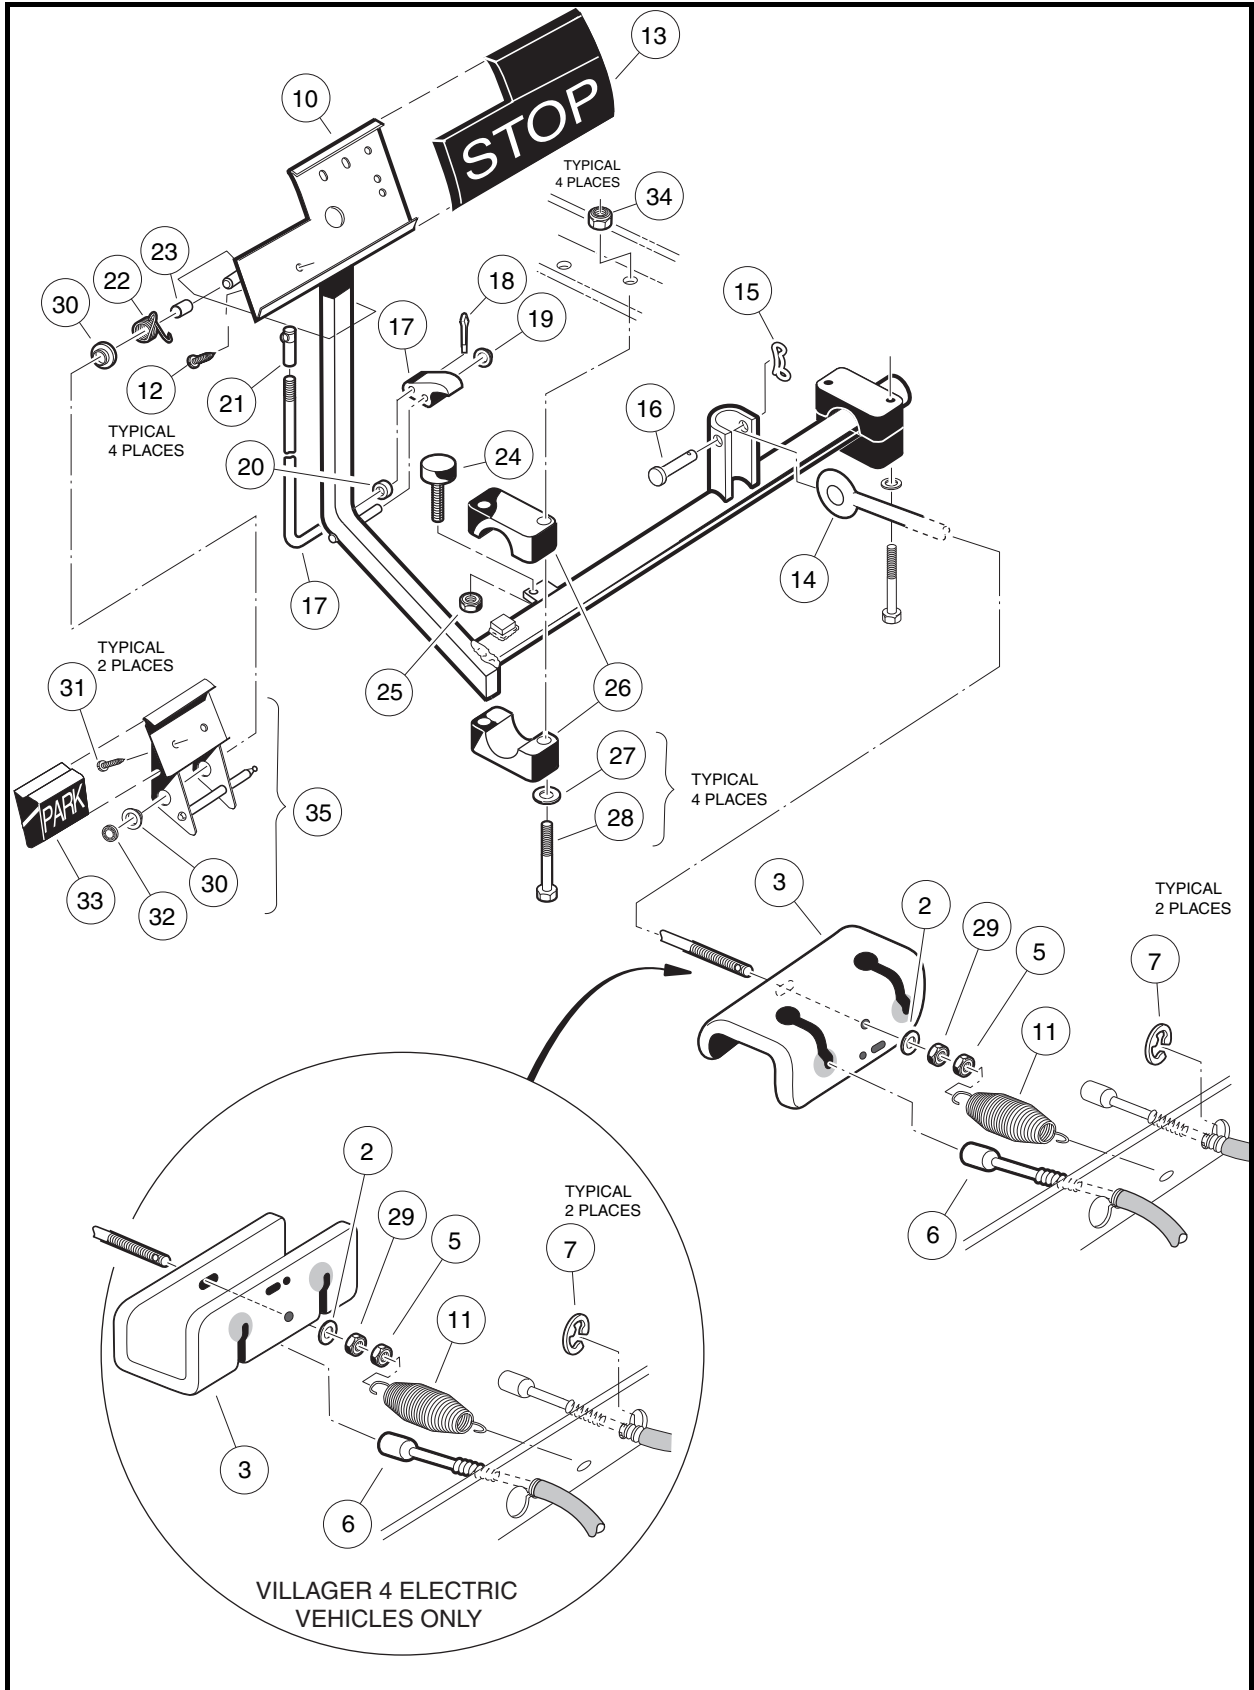
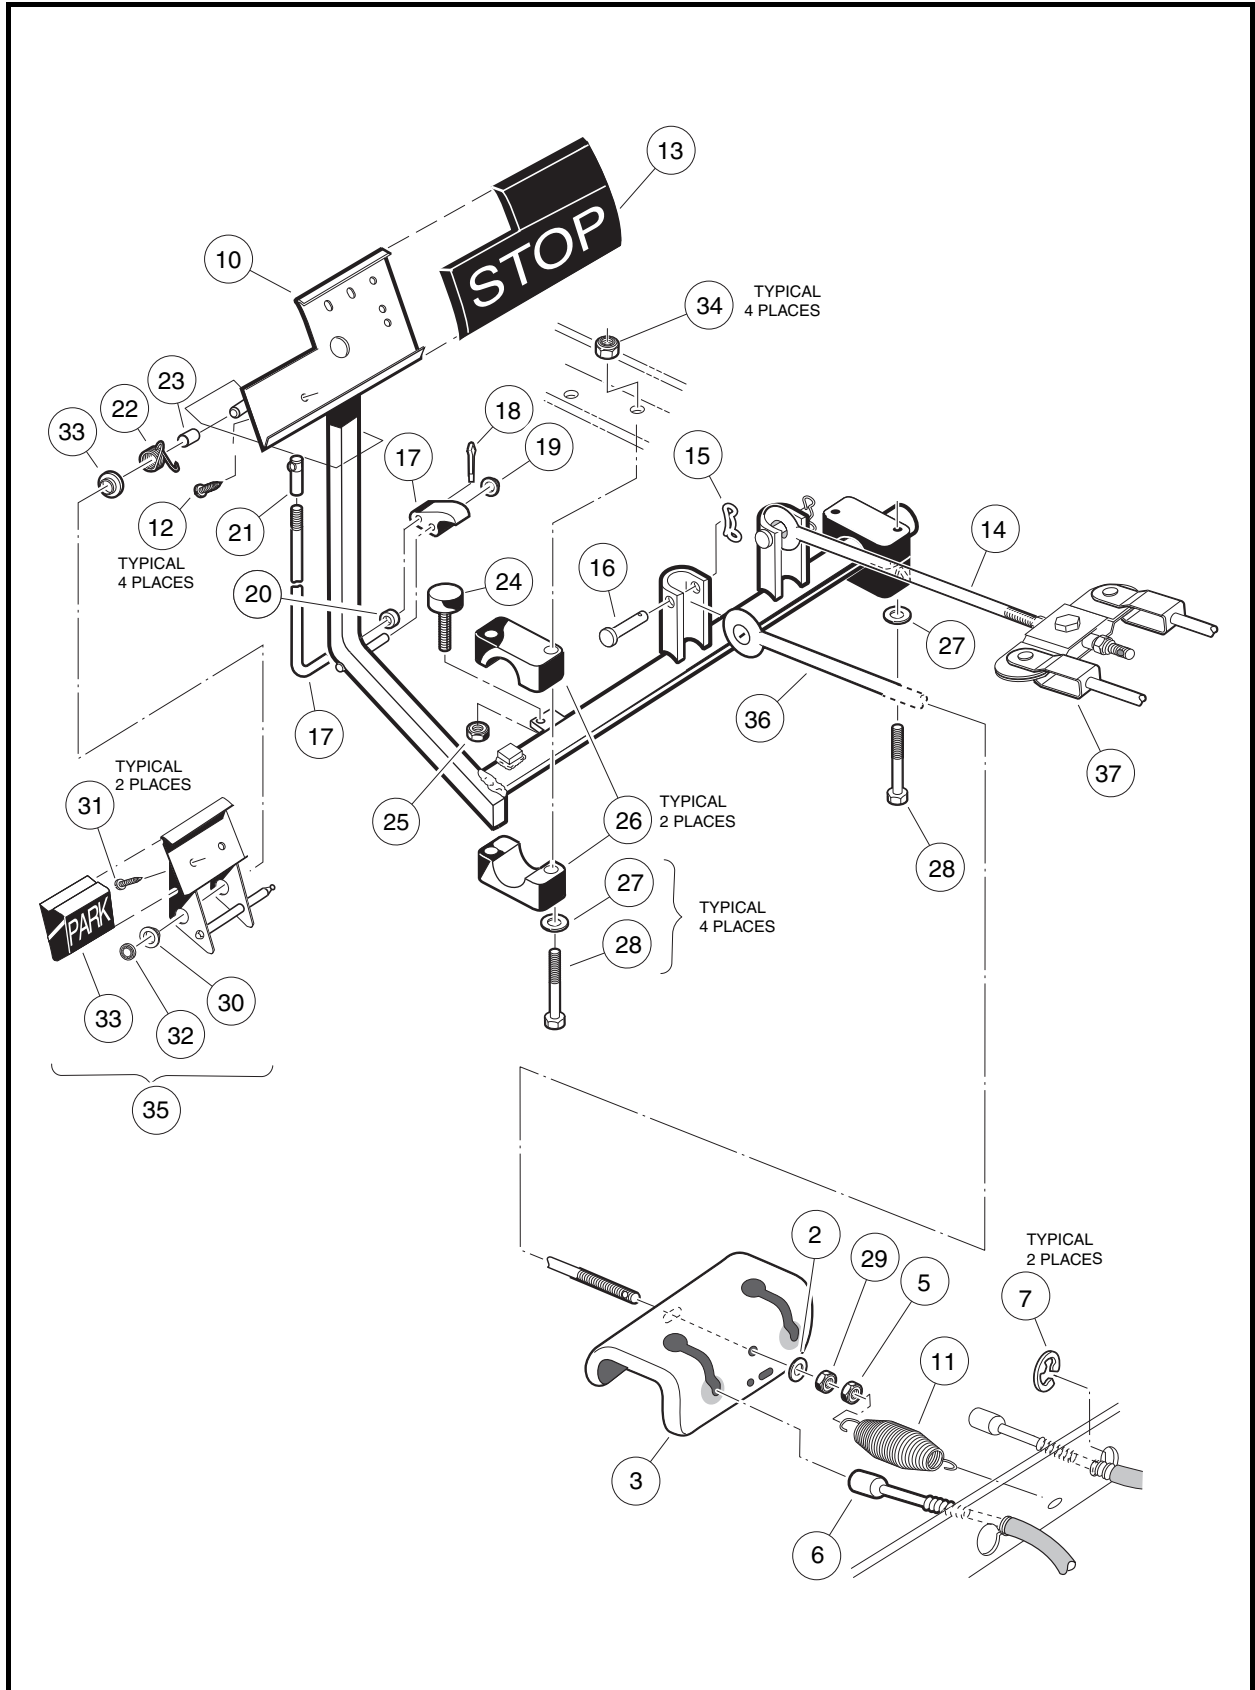
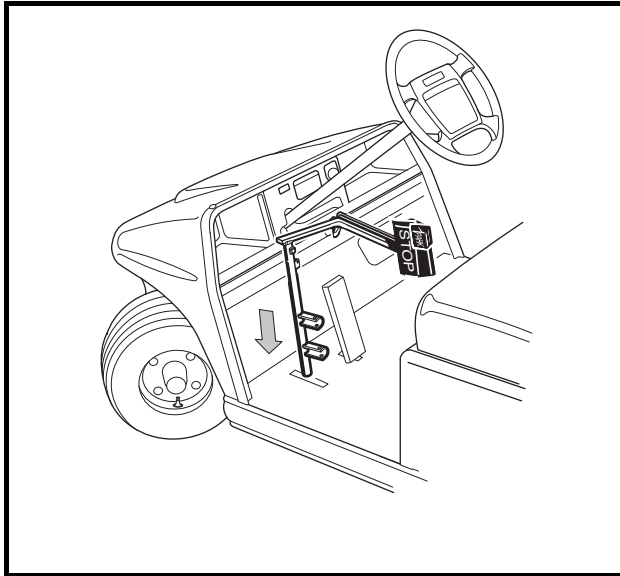

Figure 5-1 Brake and Park Brake Pedal Assembly and Mounting – Two-Wheel Brake Vehicles
Figure 5-2 Brake and Park Brake Pedal Assembly and Mounting – Four-Wheel Brake Vehicles
Figure 5-3 Brake Pedal Weldment Through Floor
- 3.1. Disconnect the equalizer rod(s) (14 and 36) from the pedal shaft by removing the clevis pin(s) (16) and bow-tie pin(s) (15) **(Figure 5-1, Page 5-2 or Figure 5-2, Page 5-3).**
- 3.2. Remove the nuts (34), flat washers (27), bolts (28), and mounting blocks (26). If the mounting blocks (26) show signs of excessive wear or are damaged, they must be replaced with new ones before installing pedal assembly **(Figure 5-1, Page 5-2 or Figure 5-2, Page 5-3).**
- 3.3. Remove the nut (25) and brake stop bumper (24) (**Figure 5-1, Page 5-2 or Figure 5-2, Page 5-3**).
- 3.4. Lift the pedal assembly (10) through the floorboard (**Figure 5-3, Page 5-4**).
1. From the top side of the floorboard, insert the brake pedal assembly (10) (**Figure 5-1, Page 5-2 or Figure 5-2, Page 5-3**) through the opening in the floor as shown (**Figure 5-3, Page 5-4**) and install the brake pedal stop bumper (24) (**Figure 5-1, Page 5-2 or Figure 5-2, Page 5-3**) on the brake pedal assembly, but do not tighten the jam nut (25) at this time.
2. Secure the equalizer rod(s) (14 and 36) to the brake pedal assembly (10) with clevis pin(s) (16) and bowtie pin(s) (15) as shown (**Figure 5-1, Page 5-2 or Figure 5-2, Page 5-3**). See following NOTE.
3. Position and attach brake pedal assembly, mounting blocks (26), and washers (27) to vehicle frame as shown. Tighten the bolts and nuts to 95 in-lb (10.7 N·m) (**Figure 5-1, Page 5-2 or Figure 5-2, Page 5-3**).
- 3.1. To remove the park brake rod and pawl assembly (17 through 20), remove the push nut (19) and disconnect the ball joint sleeve (21) from the park brake pedal (35) (**Figure 5-1, Page 5-2 and Figure 5-2, Page 5-3**). **See following NOTE.**